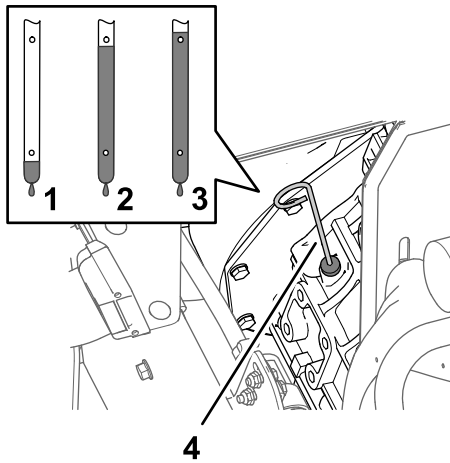

Figure 77
6. Remove the dipstick and check the oil level in the engine (Figure 77).
- Slowly add additional specified oil to bring the oil level to the Full mark on the dipstick (Figure 77).